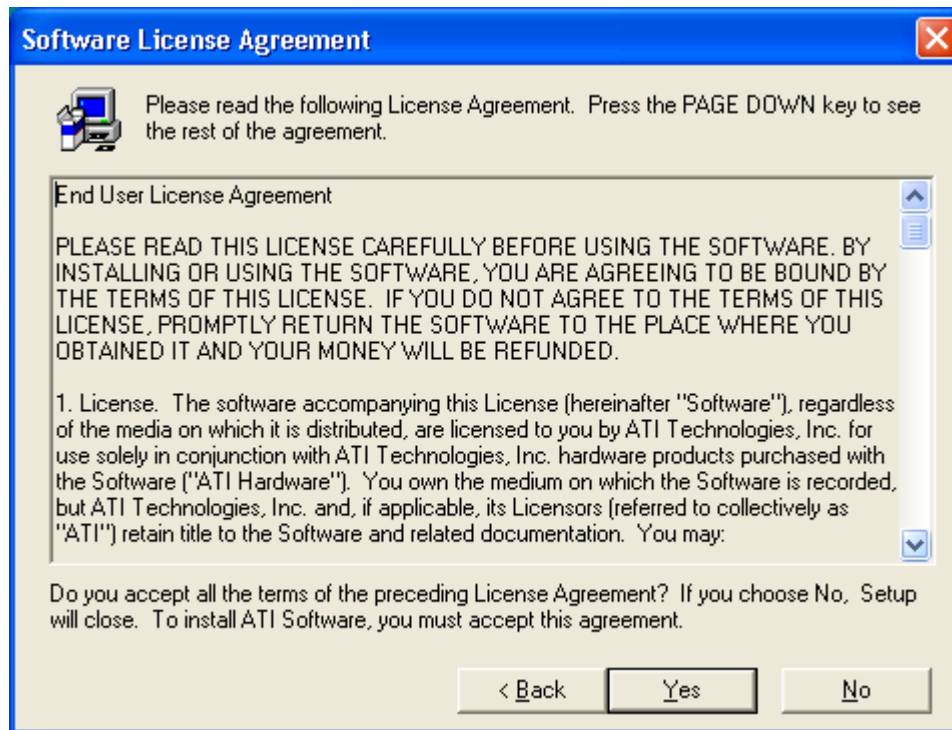

Figure 6-3: License Agreement
Step 4: Click NEXT and the license agreement appears (Figure 6-3).